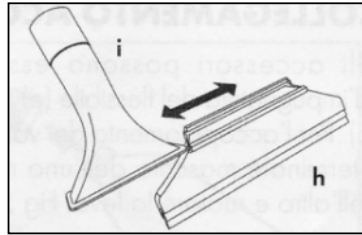

Fig. 7
- To clean armchairs, mattresses, and fabric surfaces, use the textile tool (H), using the steam function and then the vacuum function to vacuum up the steam and dirt. For the cleaning of glass and small hard surfaces, attach the squeegee (I) on the tool. Fig. 7, by sliding the squeegee on the tool.